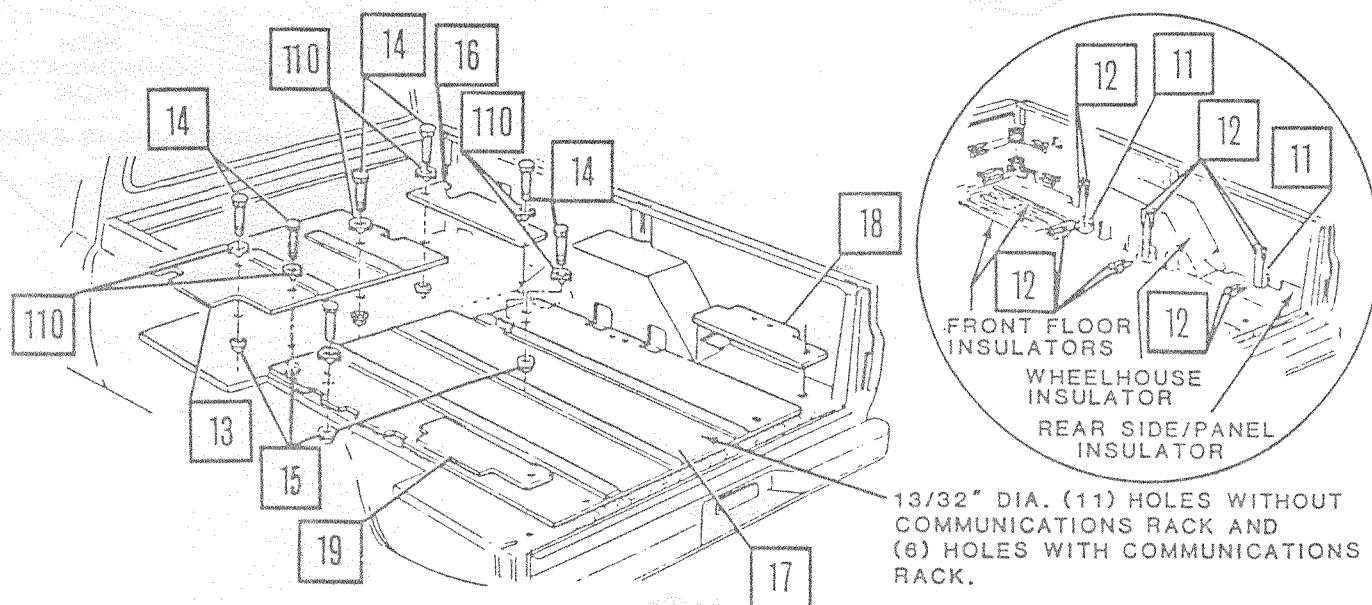

Figure 3.
If communications rack is used, leave front floor insulators (items 13 and 16, Figure 3.) out and do not cut rear center floor.
22. Position center plywood insulators in floor of pickup bed (Figure 3.) with rear of center plywood against floor panel insulator molding.
23. Install "L" brackets to front panel, center floor at wheelwells and floor pieces at rear side wall. Using "L" brackets as a template, drill 3/32 inch holes in wood side and front insulators, and secure with wood screws (Figure 3.).
25. Using floor insulator holes as template, center punch and drill 13/32 inch holes in front of cargo floor, and install forward carriage bolts and nuts (Figure 3.). Tighten to 15-22 lb.-ft. (20.0-30.0 Nm).